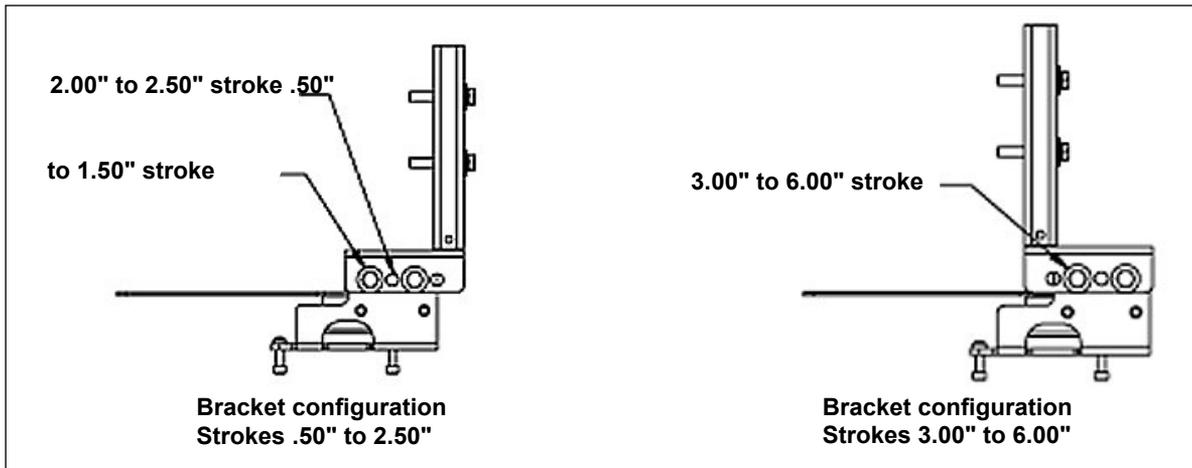

Figure 29 - Bracket Configuration Strokes .5 - 2.50" and 3-6"
4. Mount take-off bracket to stem block at angle which keeps turnbuckle assembly parallel to stem (Figure 29) using: